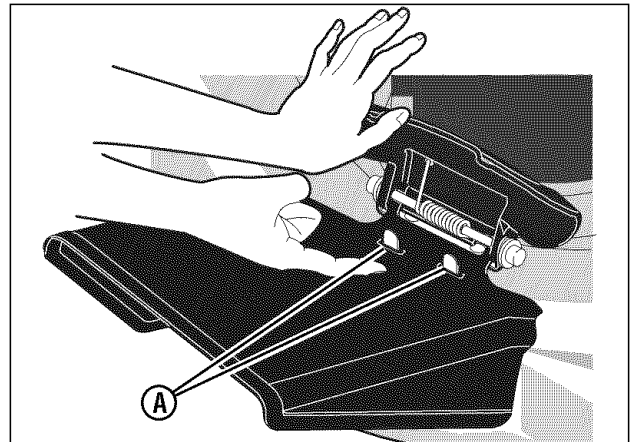

Figure 9: Side discharge deflector locking tabs
3. Lower the side deflector. Make sure the locking tab (**A, Figure 9**) goes through the slot in the side deflector.